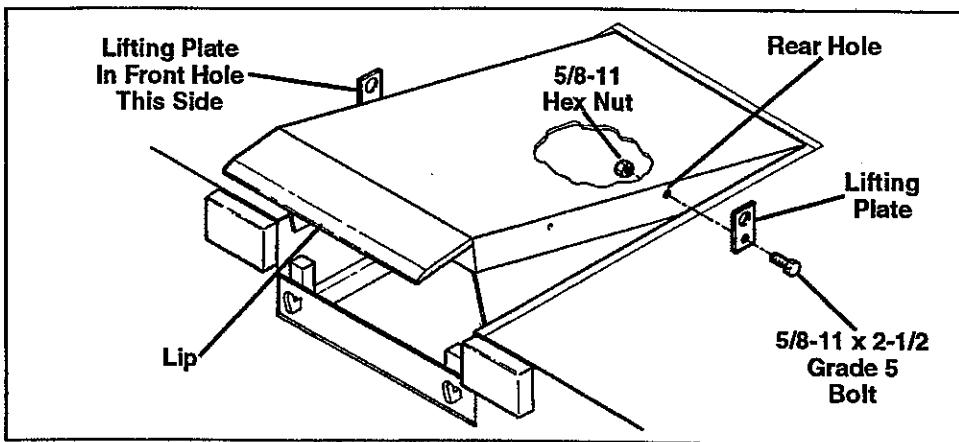

Fig. 6. Lifting Plate Location
3. Attach lifting plates, supplied by others, to the outboard joists on both sides of the dock leveler. Use front hole on one side and rear hole on the other. See Figure 6.